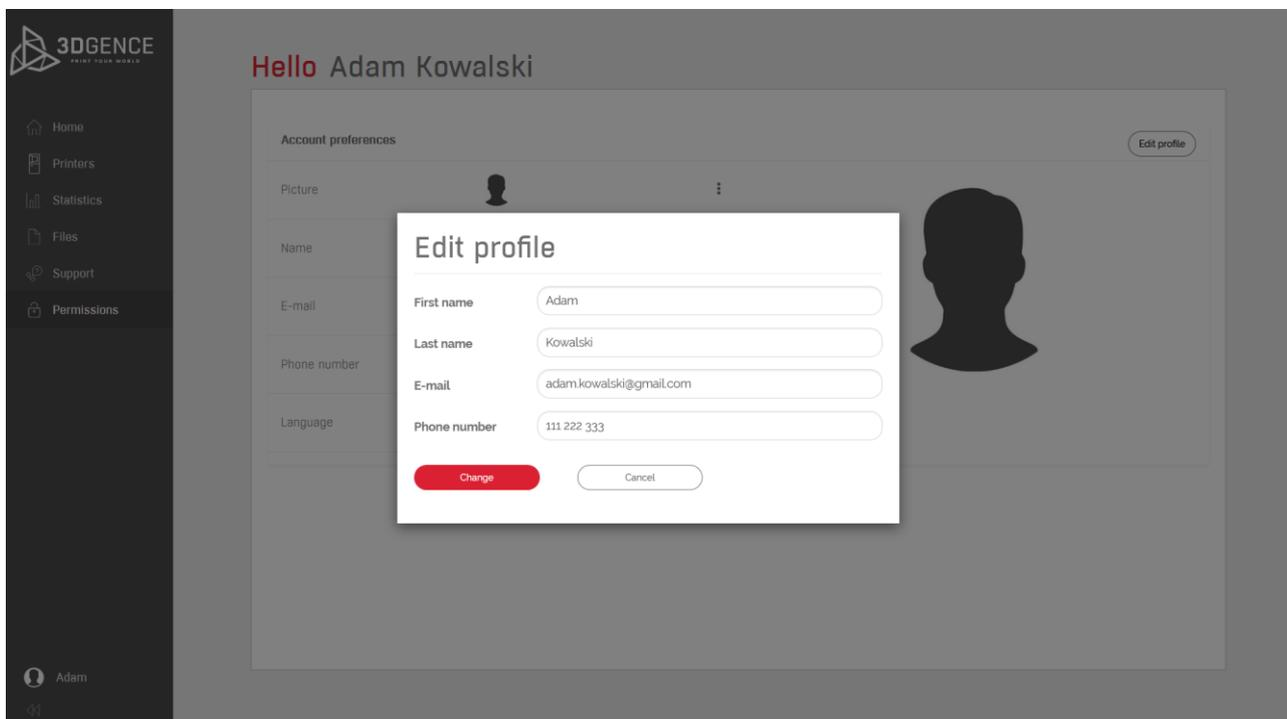

Fig. 27 Edit user account
1. Use this button to edit your profile details (Fig. 27).